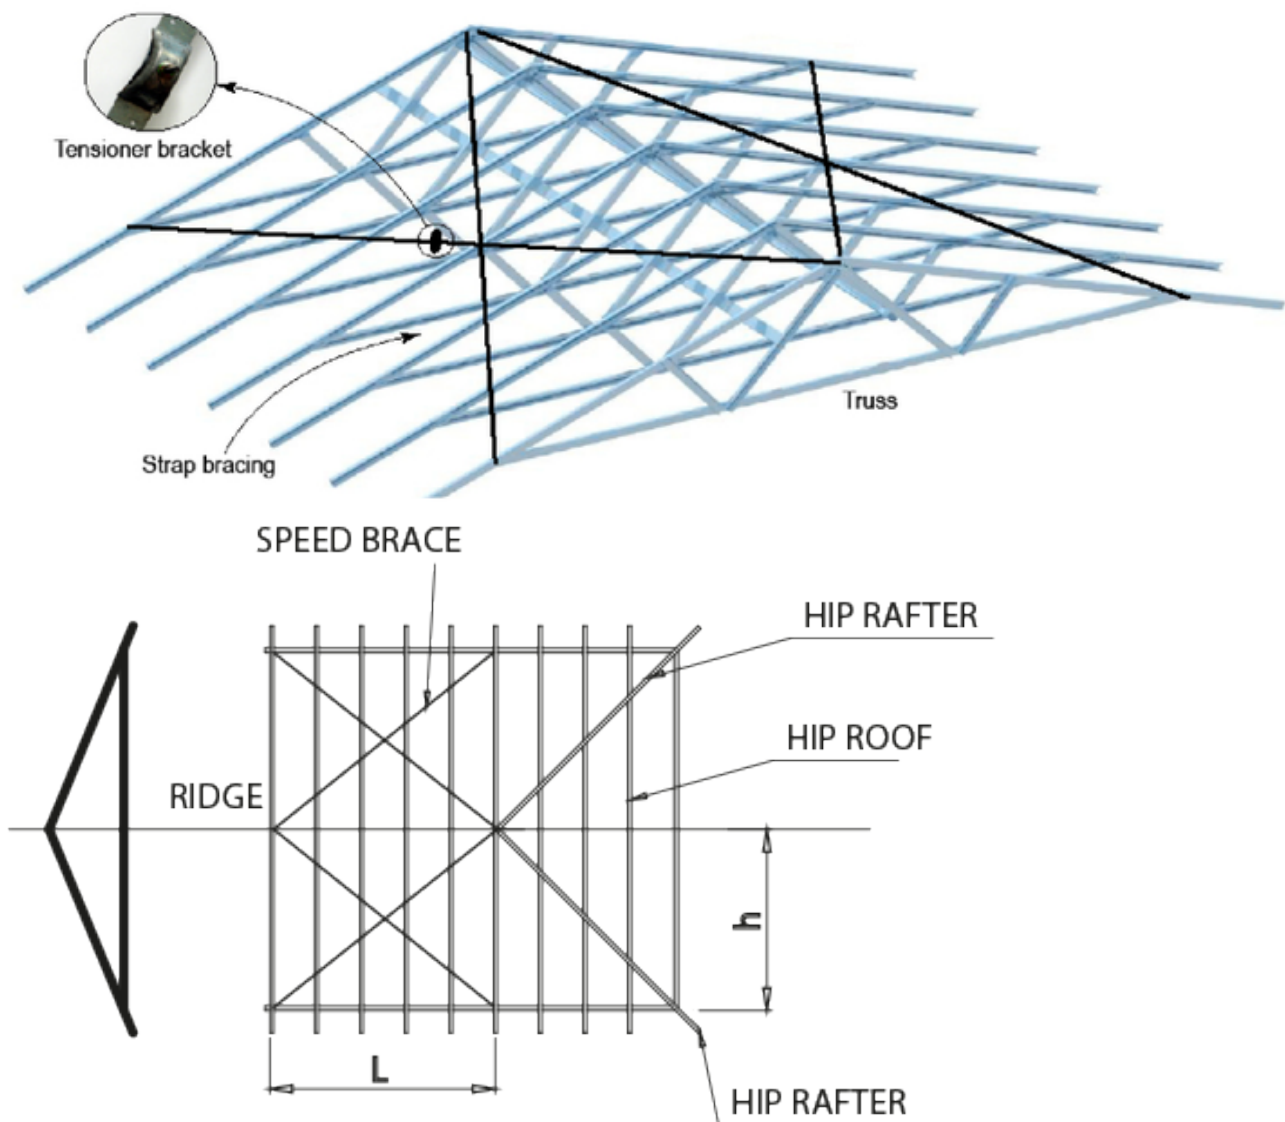

Figure. 7.79: Roof cross bracing using strap bracing
Step 3: Tensioning When all the braces have been installed, check that trusses are plumb and straight, and are effectively tied together with temporary battens. Where strap brace is used, fix bracing to the apex of the first truss and at the wall adjacent to the last truss as shown in **Figure 7.79**. Tension bracing before fixing to intermediate trusses with tensioner bracket and fix strap to each truss. Fix braces to the upper face of the top chord at each intersection.